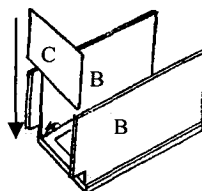

Figure 3
4. Install the bottom (Figure 3): gently spread side panels and insert bottom (C) into the grooves of side panel (B) until it touches the face frame (A). Lock each cam lock.